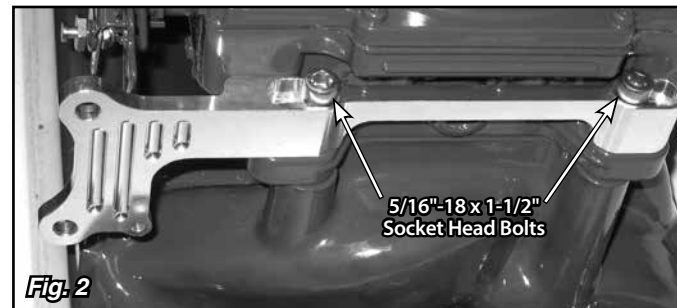

Fig. 2
Step 1: Install the aluminum linkage bracket onto the rear of the carburetor base using the two 5/16"-18 x 1-1/2" socket head bolts that are supplied with the kit. **NOTE:** If you are using a spacer under the carburetor, you will need to supply new bolts that are longer by the same amount as the spacer thickness. Example: 1/2" spacer requires 1-1/2" + 1/2" = 2" bolt. **Fig. 2**